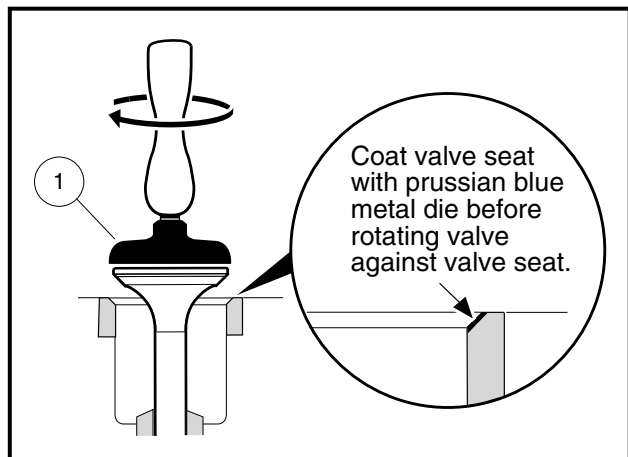

Figure 13-23 Rotate Valve Against Valve Seat
4. Rotate the valve against the seat with a lapping tool (1) (**Figure 13-23, Page 13-14**).